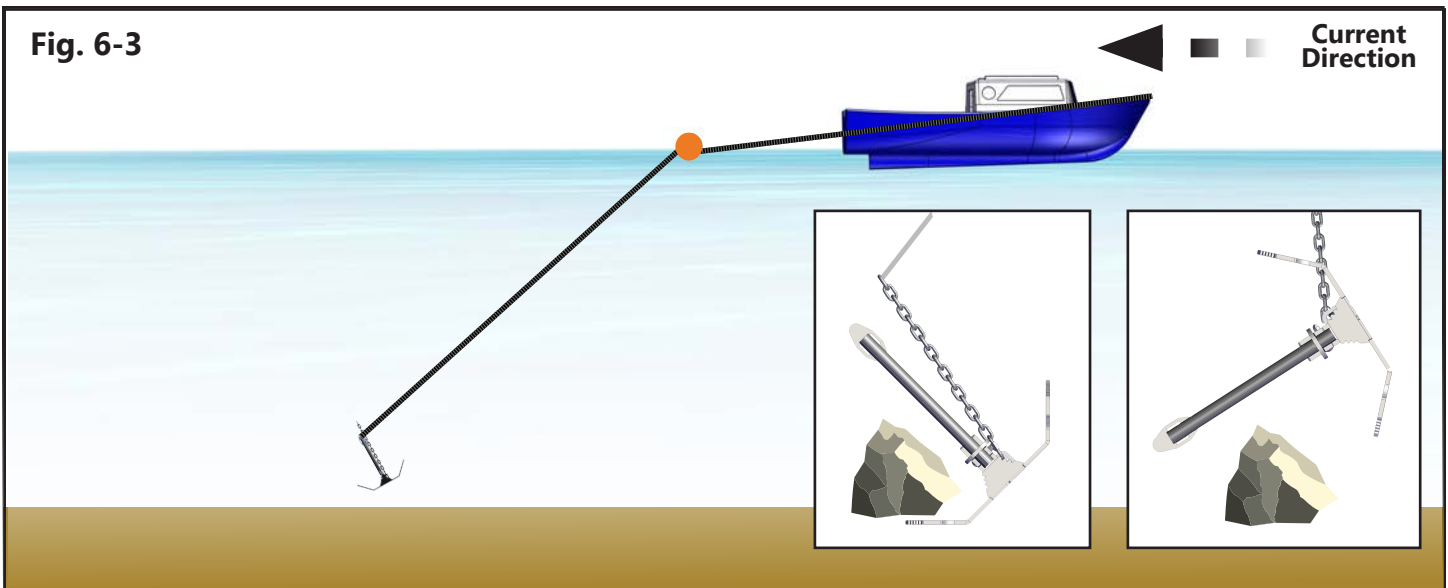

Fig. 6-4
6. Drive upstream or upwind until the buoy slides down the anchor line and brings the anchor to the surface. Tow your buoy and anchor to open water away from all other boats and hazards. See **Fig. 6-4**